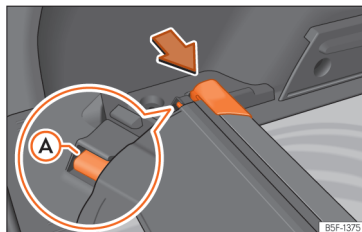

Fig. 180 In the boot: space to store the retractable shelf.
- Press the head of the retractable shelf in the direction of the arrow until it engages in its housing >>> Fig. 180. Make sure that slide ① fits into the corresponding housing.